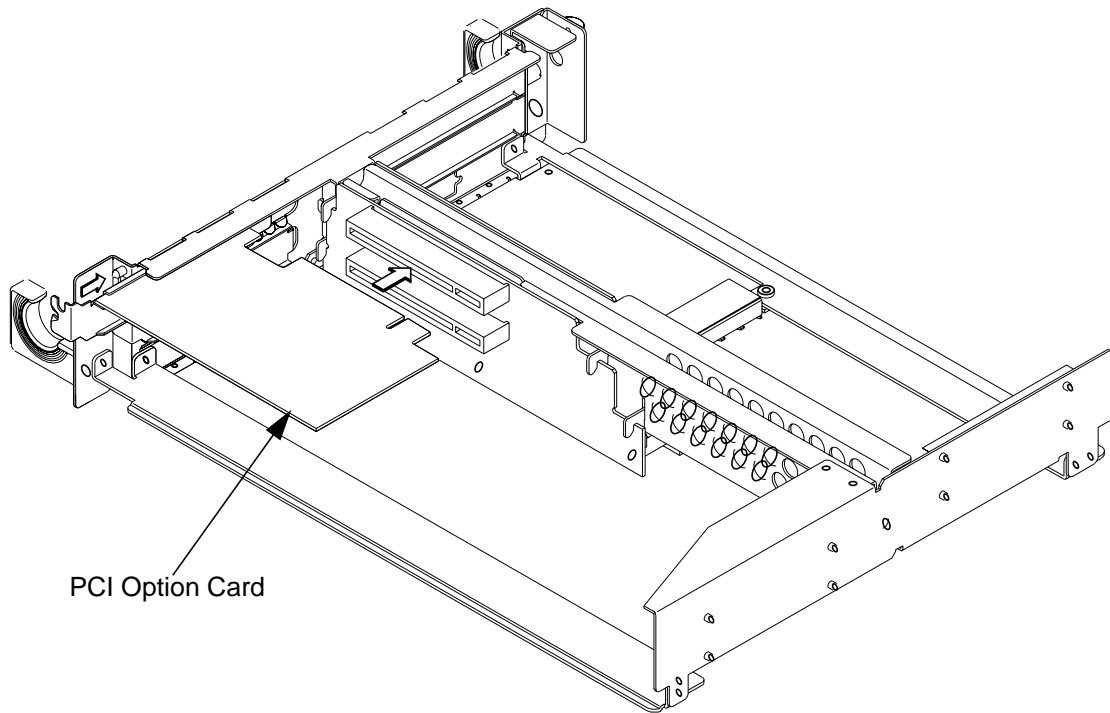

Figure 4 **Installing a PCI Option Card**
- 8 Install the PCI card in the slot, as shown in Figure 4. Make sure its connector is completely seated in the PCI backplane.